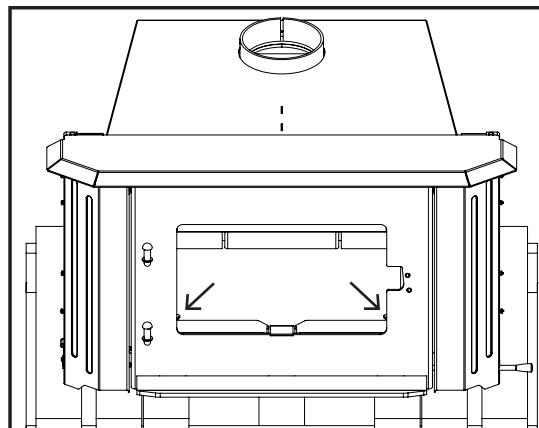

Figure 7: Bolts to remove.
- Remove the two (2) lag bolts (shown in Figure 7) that secure the unit to the pallet from inside the firebox.